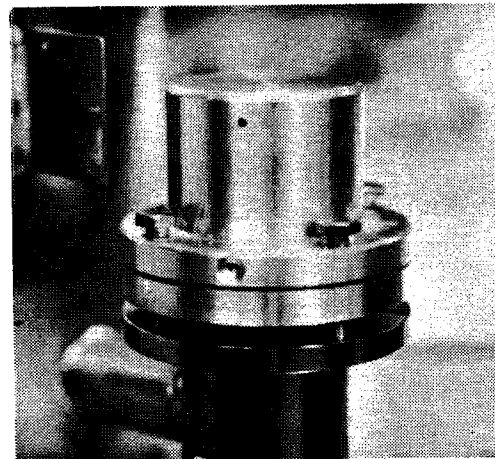

Figure 6-17. Pneumatic Actuator (Ready for Bolt Tightening—Note Gap)
12. Install pneumatic actuator. Be sure the hole for the compressed air line is located as shown in Figure 6-17.